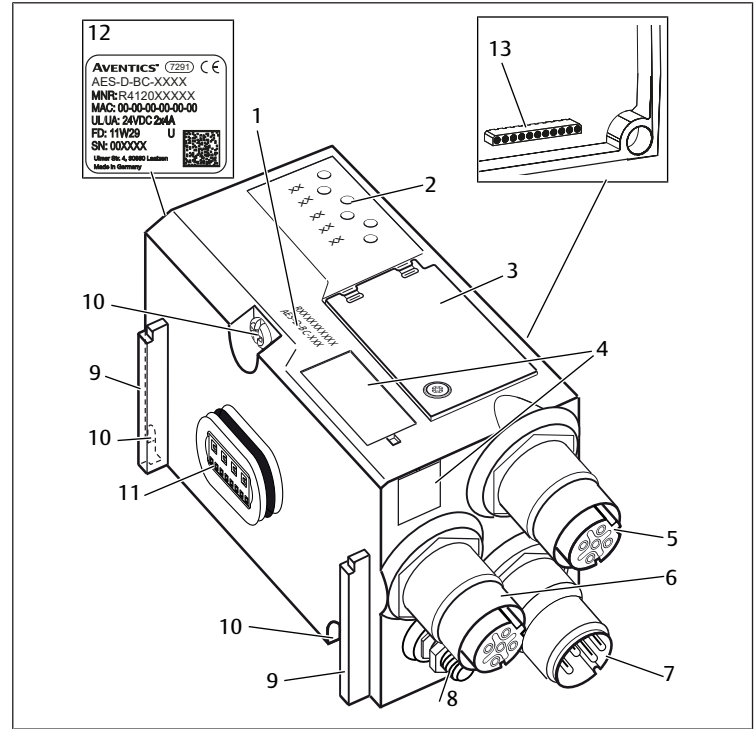

Fig. 3: Bus coupler
5. Release the mounting screws (see Fig. 3: Bus coupler (10)). Recommended actuator: Ejot TORX PLUS®/AUTOSERT® 20IP
2. Mount the labels from the old bus coupler onto the new bus coupler or label the equipment ID field on the new bus coupler (see Fig. 3: Bus coupler (4)) on the new bus coupler.
3. Adjust the switches on the new bus coupler in line with the old bus coupler. For this, open the window (see Fig. 3: Bus coupler (3)). Make sure that the seals are fitted correctly when closing the window.
5. Insert the three mounting screws (see Fig. 3: Bus coupler (10)) into the through holes on the left side of the bus coupler and tighten the screws. Tightening torque: 1.5 Nm–1.8 Nm with actuator Ejot TORX PLUS®/AUTOSERT® 20IP